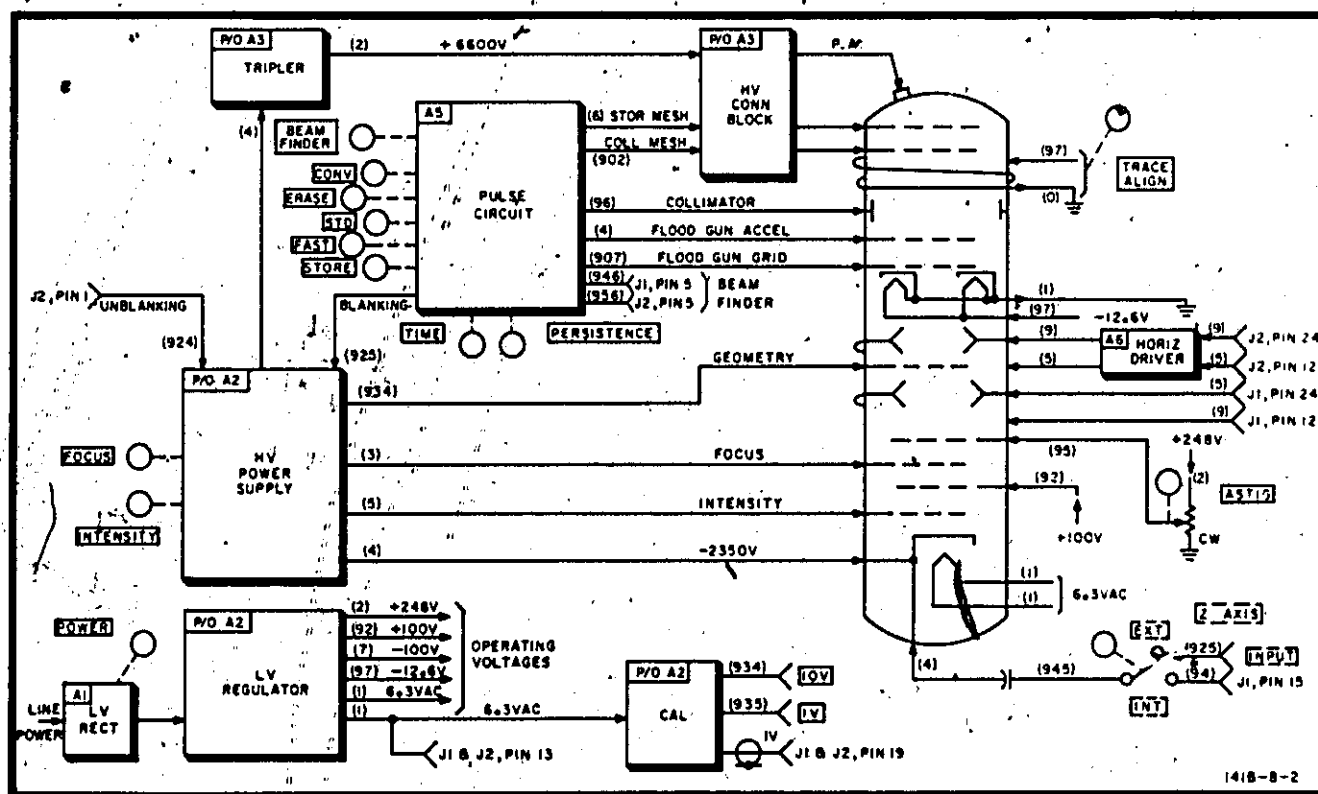

Figure 4-1. Model 141B Block Diagram
4.2. Refer to the block diagram, Figure 4-1, for this explanation. The Model 141B Oscilloscope has four main circuits: a low-voltage supply, a high-voltage supply, a calibrator circuit, and a pulse circuit. The horizontal and vertical amplifier circuits are in the plug-in units and operate directly into the CRT.